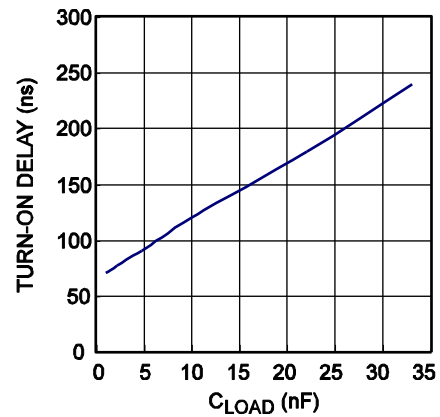

**Figure 12: Synchronous Rectification Typical Waveform in LLC**
Figure 12 shows the typical waveform of the LLC on the secondary side. To achieve a fairly high usage of the MOSFET's  $R_{DS(ON)}$ , it is expected that the MOSFET driver voltage is kept at the maximum level until the last 25% of the SR conduction period. Calculate  $V_{DS}$  with Equation (2):